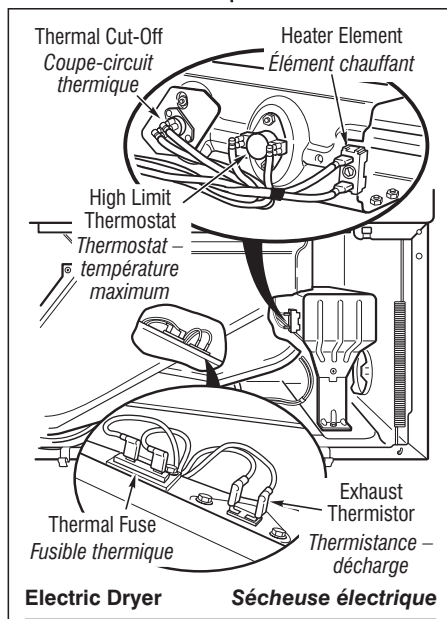

Figure 12
Locate the components using figure 12.
À l'aide de la figure 12, identifier les composants.
5. Locate the high limit thermostat. See figure 12, page 9. Measure the continuity through it by connecting the meter probes on the red wire and blue wire terminals.
- Check wire connections at the machine control electronics and thermistor. See Accessing & Removing the Electronic Assemblies, page 15, and for thermistor location see figure 12, page 9.
5. Identifier le thermostat de température maximum; voir la figure 12, page 9. Contrôler la continuité à travers le thermostat : connecter l'instrument sur les broches rouge et bleue.